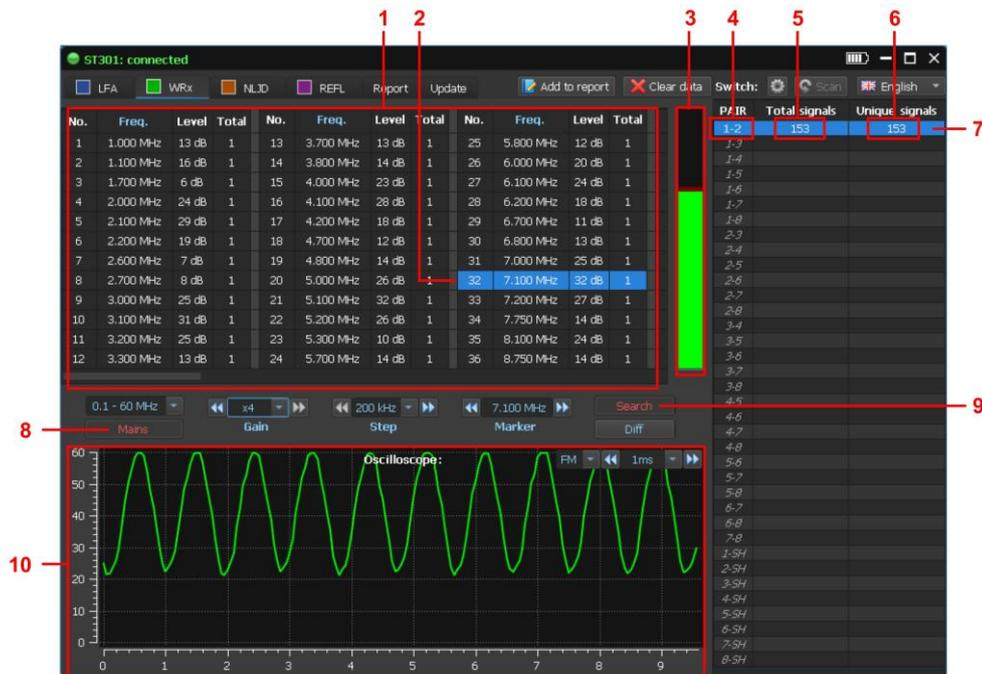

Fig.71
The screen is shown in Fig.71.
In Fig.71:
1. Connected pair of wires (Fig. 71, item 4).
2. The total number of signals detected in this pair of wires (Fig. 71, item 5).
3. The number of signals that were detected only in this pair (Fig. 71, item 6).
The table of detected signals (Fig. 71, item 1) displays:
To tune to the frequency of the detected signal, click on the corresponding row of the table. The oscillogram of the demodulated signal (Fig. 71, item 10) will be displayed on the screen.
By changing the scanning step and controlling the marker, you can adjust the frequency of the signal under analysis. To turn off the mode, click **Search** (Fig.71, item 9).